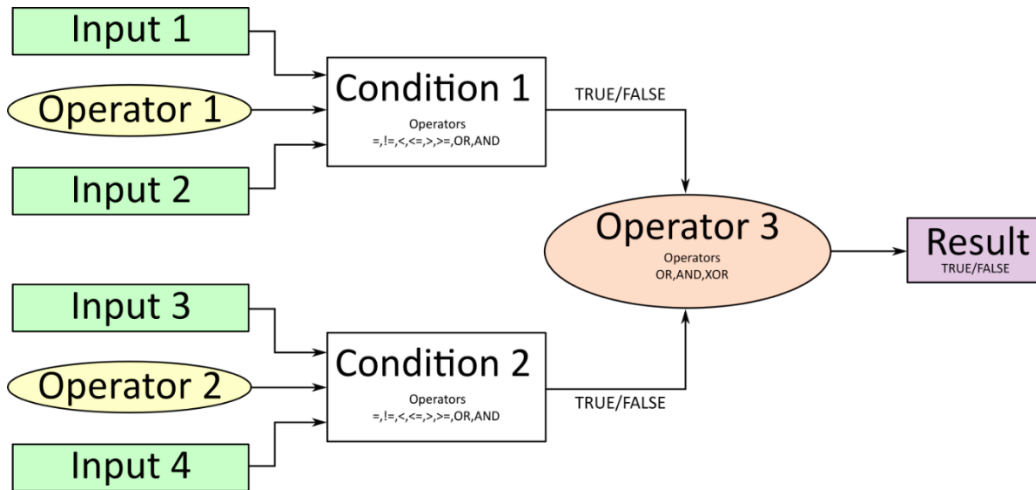

Figure 6: Conditional Block Diagram
This function block is a simple version of the Programmable Logic Function Block and compares up to four different input sources with different logical or relational operators. The result of each block can therefore only be true (1) or false (0). Figure 6 demonstrates the connections between all parameters.